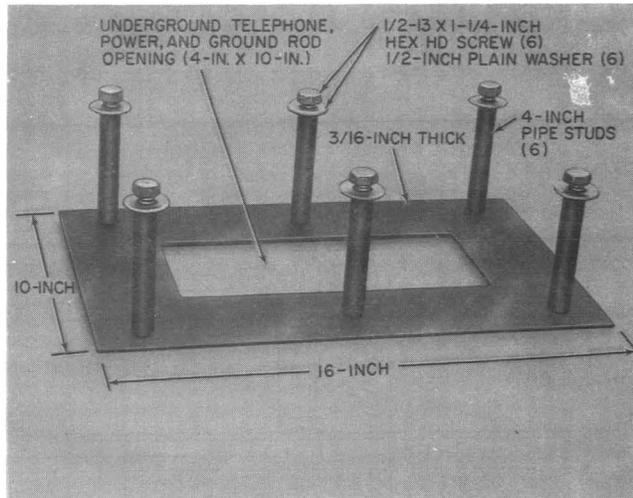

Fig. 12—KS-20842, List 152 Buried Base
- (a) Two KS-20842, List 152 buried bases (Fig. 12)
3.04 It is recommended that all new concrete foundations utilize two KS-20842, List 152 buried bases (Fig. 12) where possible.